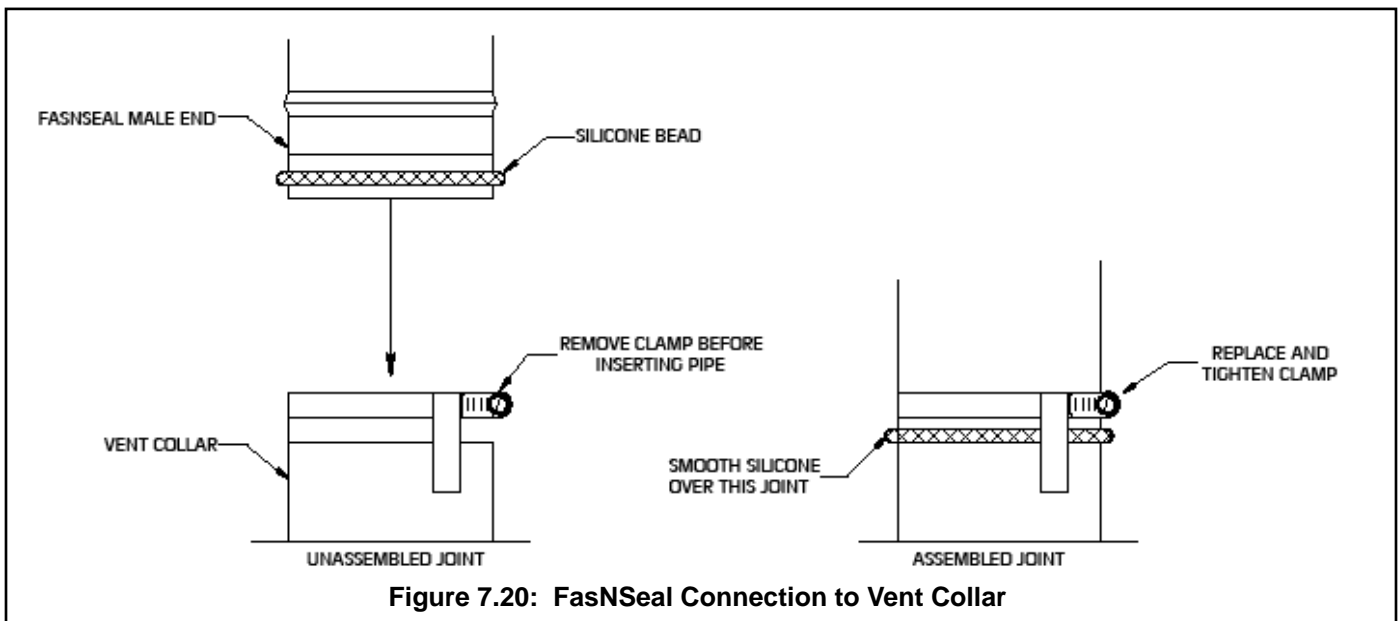

Figure 7.20: FasNSeal Connection to Vent Collar
b) Remove the hose clamp shipped on the FCM vent collar. Bend the three hose clamp tabs on this collar outward slightly. Clean the exterior of the male end of the first piece of pipe and the inside of the vent collar on the boiler. Remove dirt, grease, and moisture from the surfaces to be sealed. On the male end of the pipe, apply a 1/4" wide bead of high temperature silicone approximately 1/4 inch from the male end of the pipe. Insert the male end of the pipe into the boiler vent collar until it bottoms out. Apply an additional bead of silicone over the outside of the joint and the seams on the vent collar and smooth out (Fig 7.20). Replace and tighten the clamp on the vent collar.